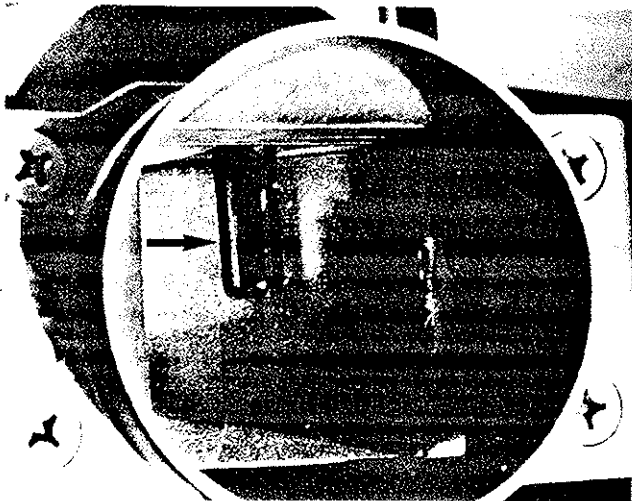

Fig. 2-34. This air-temperature sensor (arrow) (also called Temp I or NTC I) signals intake air temperature.
**Air Temperature Sensor.** With the air cleaner removed, you can see the Intake Air Temperature Sensor in the air-flow sensor as shown in Fig. 2-34. Known as NTC I, this sensor also has a negative-temperature coefficient. Remember, the control unit sends a signal which is changed by the air temperature sensor. Cold air, weighing more, needs more fuel, so a cold-air